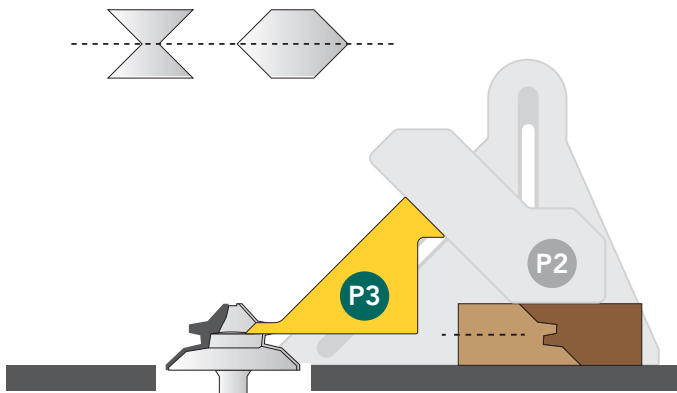

Fig 2b - Set to center point
B.4. Vertically Symmetrical Bits: Align tip of P3 with the vertical center of the bit [Fig 2b].